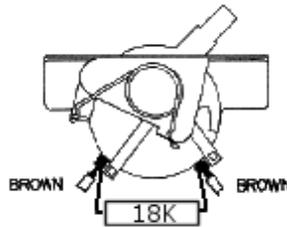

Fig. 1
- Install the included resistor by attaching each end to the two terminals where the brown "zip" cord is attached to the switch (see Fig. 1).